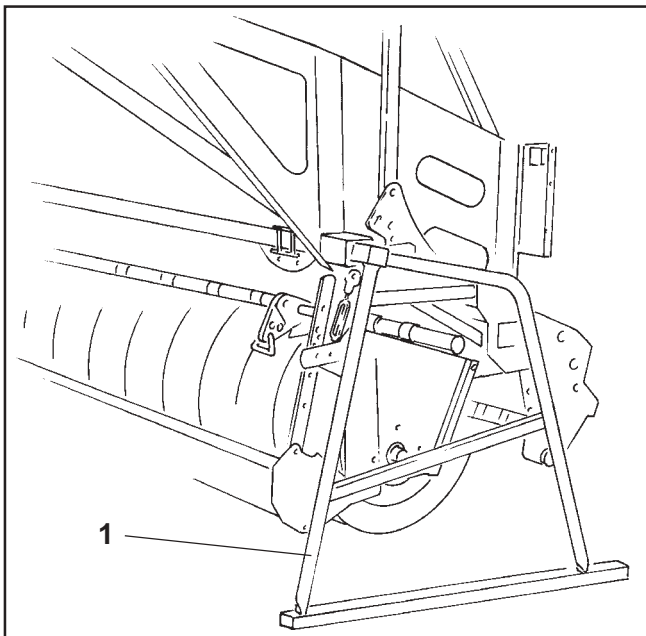

Fig 6.12
Lift the total combination and remove the parking supports (Fig. 6.12/1).
- Lift the total combination and remove the parking support (Fig. 6.12/1).